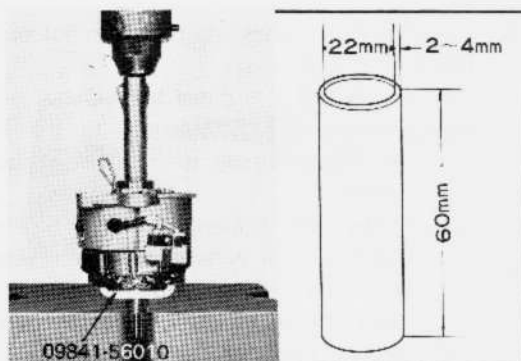

Fig. 7-73 Installing Rotor Assembly
- (1) Hold the rotor with SST [09841-56010] and using the tool illustrated in Fig. 7-73, at the bearing side, press the end frame onto rotor.